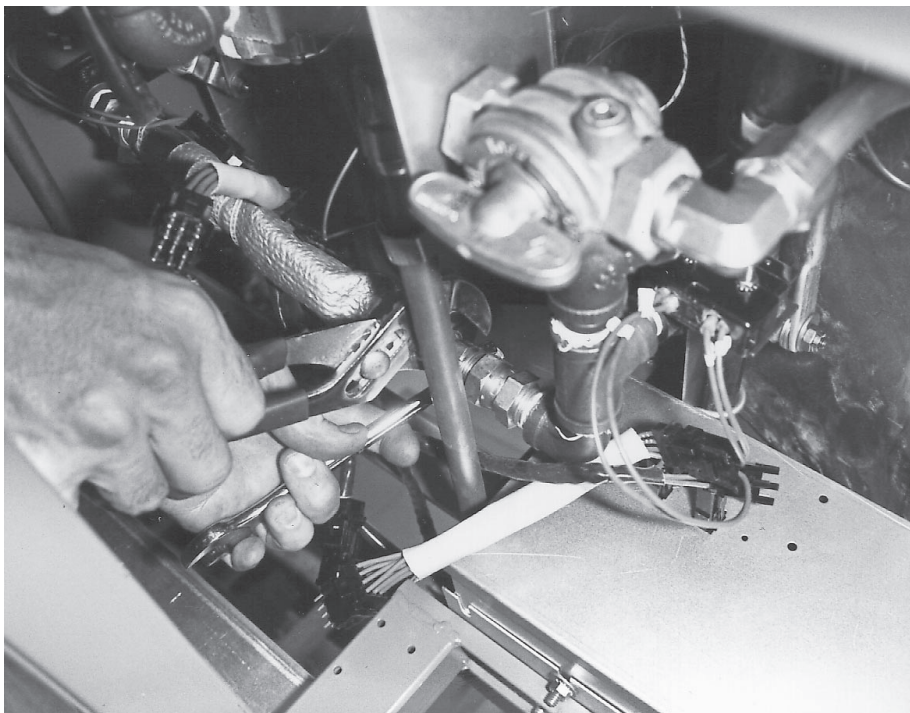

Fig. 76
14. With a 13/16" wrench disconnect the oil refill coupling. (Fig. 76)